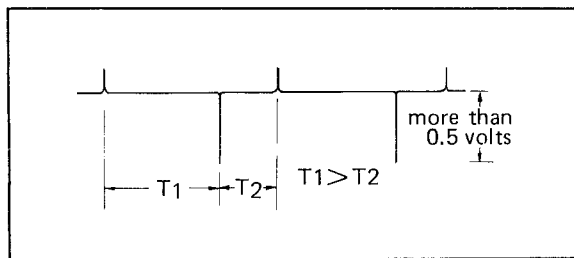

Fig. 6-17 Control signal
3. Verify the negative pulse of the control signal as shown in Fig. 6-17.